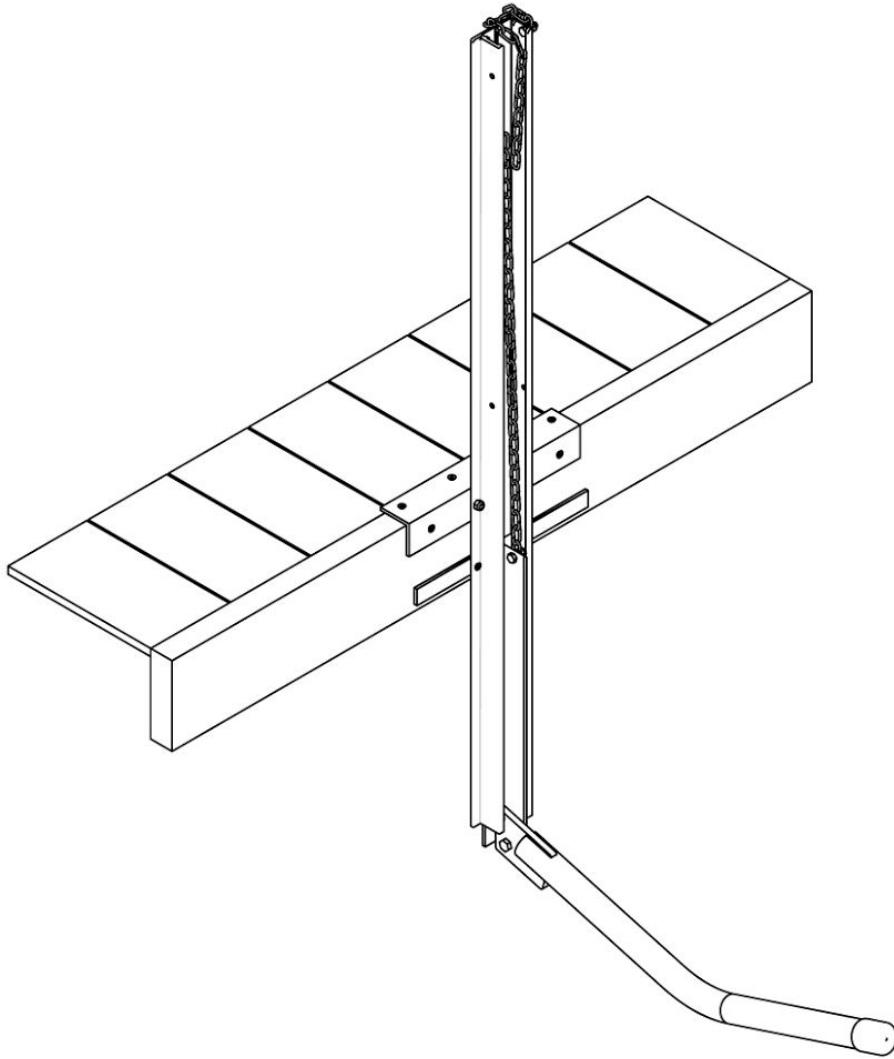

FIGURE 2
- Place the assembled KayaArm onto the edge of dock and fasten it to the dock using at least 2 deck screws (not provided) into the top surface of the angle (4). Fit the cedar shims into the approximately 1/4" space between the back of the mast and the vertical surface of the dock (see Figure 2) at a location directly behind the lower holes in the mast flanges. HINT: Push the tapered shims simultaneously one from each side of the mast and one in front of the other, into the space behind the mast to a distance where this space is filled when the mast is vertical. Install 2 deck screws (not provided) into the lower flange holes. Optionally install more deck screws through additional holes provided in angle (4).
- The KayaArm mounted as above on a dock is functional to a water level about 30" below the top of the dock. For water levels below that you may attach the KayaArm to the side of a ladder with two bolts (not provided) through holes provided in the mast (1). See photo at <http://www.kayaarm.ca/manuals/KayaArmInstructions.pdf> and "ladder demo" at <http://www.kayaarm.ca/demovideos.php>